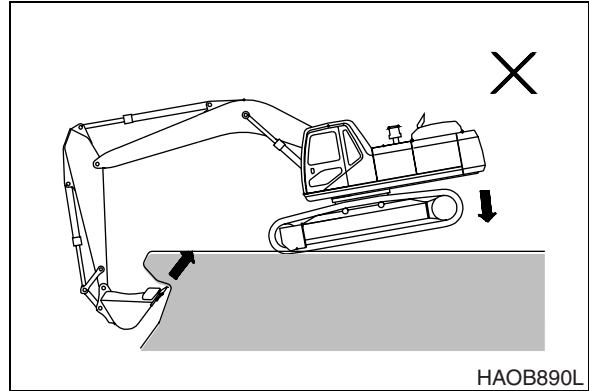

Figure 56
7. Do not use machine weight to provide additional breakout force. See Figure 56.